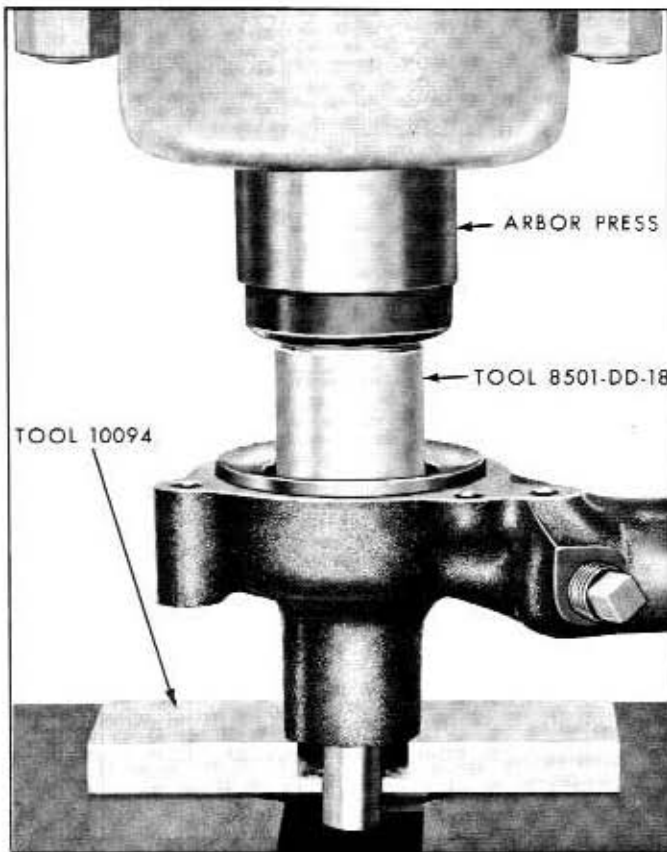

Fig. 8-9—Seal Installation—(60C-6006)
3. Apply a light film of waterproof sealer on a new seal. Use Tool 8501-DD-18 and press the seal into the housing. See figure 8-9.